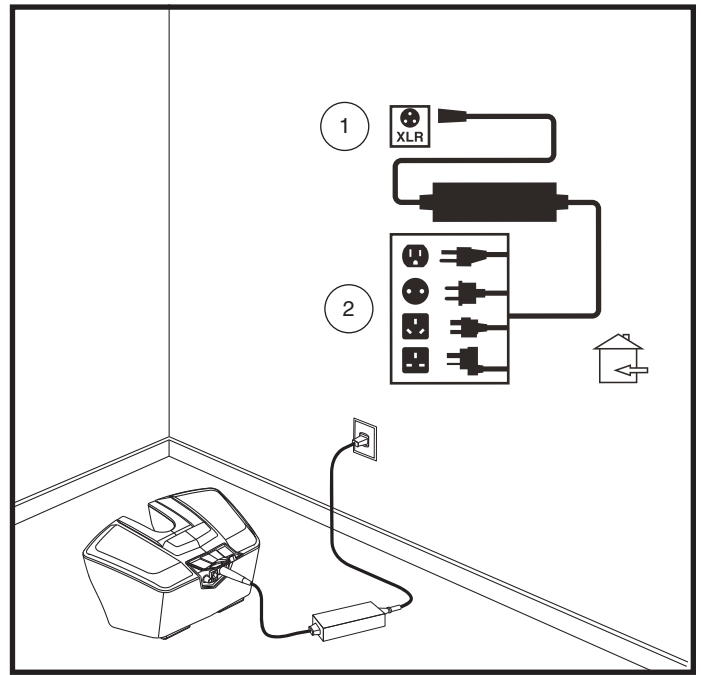

Figure 16. Battery Charging
3. Plug the off-board charger into the battery box charger port. **See figure 16.**